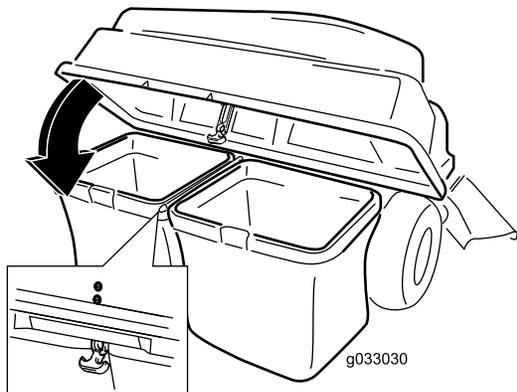

Figure 18
5. Lower the bagger top onto the bags (Figure 18).